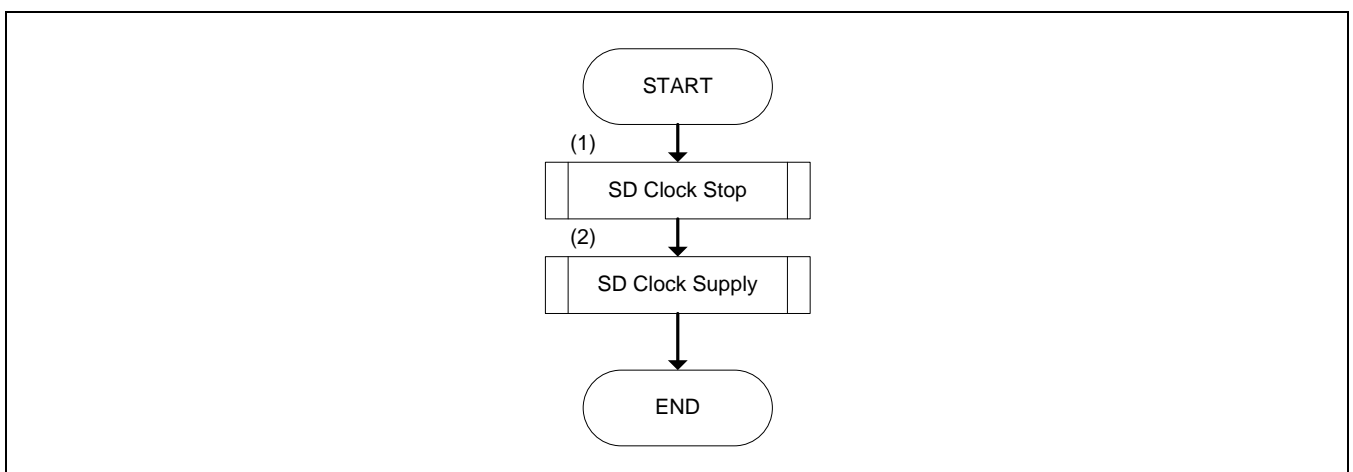

Figure 21-5. SD Clock Change Sequence
The sequence for changing SD Clock frequency is shown in Figure 21-5. When SD Clock is still off, step (1) is omitted.